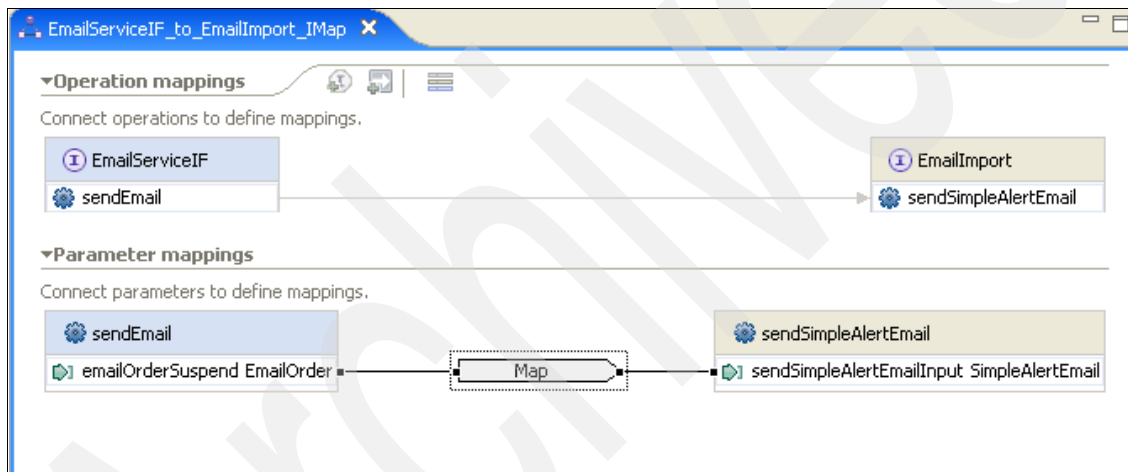

Figure 3-237 EmailServiceIF\_to\_EmailImport\_IMap
8. Verify the mappings look as shown in Figure 3-237, and then save the interface map.